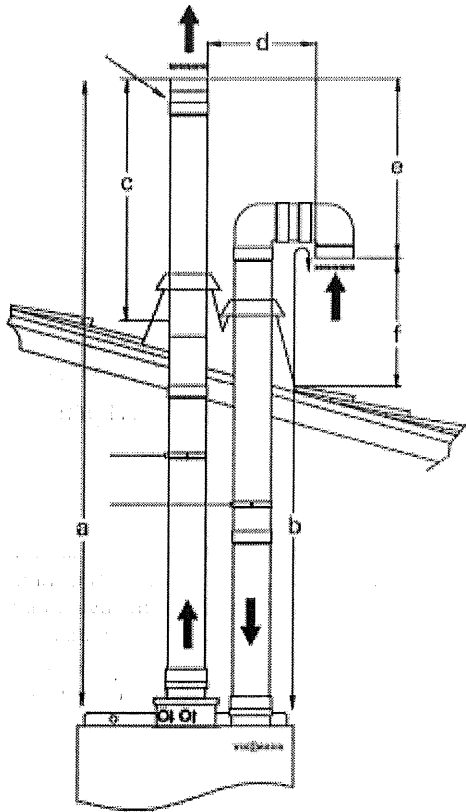

Fig. 52 Vertical Vent Installation Vitodens 100-W and 200-W WB2B 19, 26, 35
The total equivalent length specified for a two pipe system is the total **combined** length of the exhaust vent and air intake pipe system. Do not exceed these maximum lengths. See table 25 as well as fig. 52 and 53 for reference. All PP(s) vent material and air intake (if PP(s) used) must be ULC S636 listed, manufactured by M&G (Muelink & Grol b.v.) / DuraVent
*2 See figure 52 and 53.